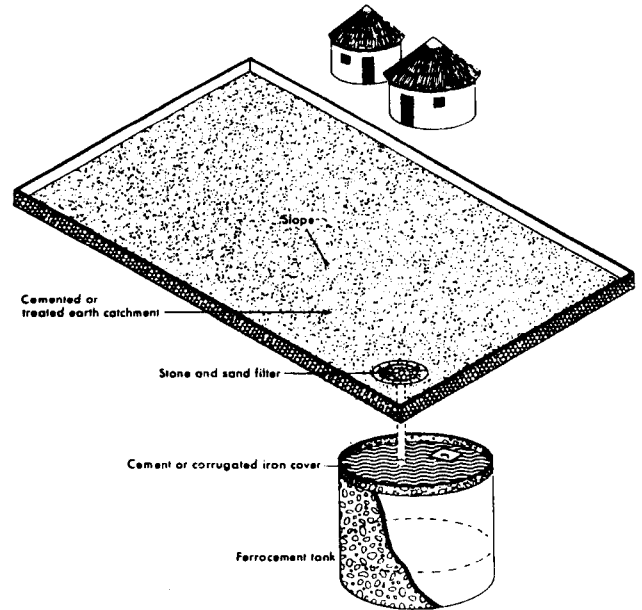

Fig. 3. Ground catchment system
2. Ground catchment systems - where a natural or treated ground surface is used as a catchment apron to collect rainwater, which is normally stored in a sub-surface container (see Fig. 3).